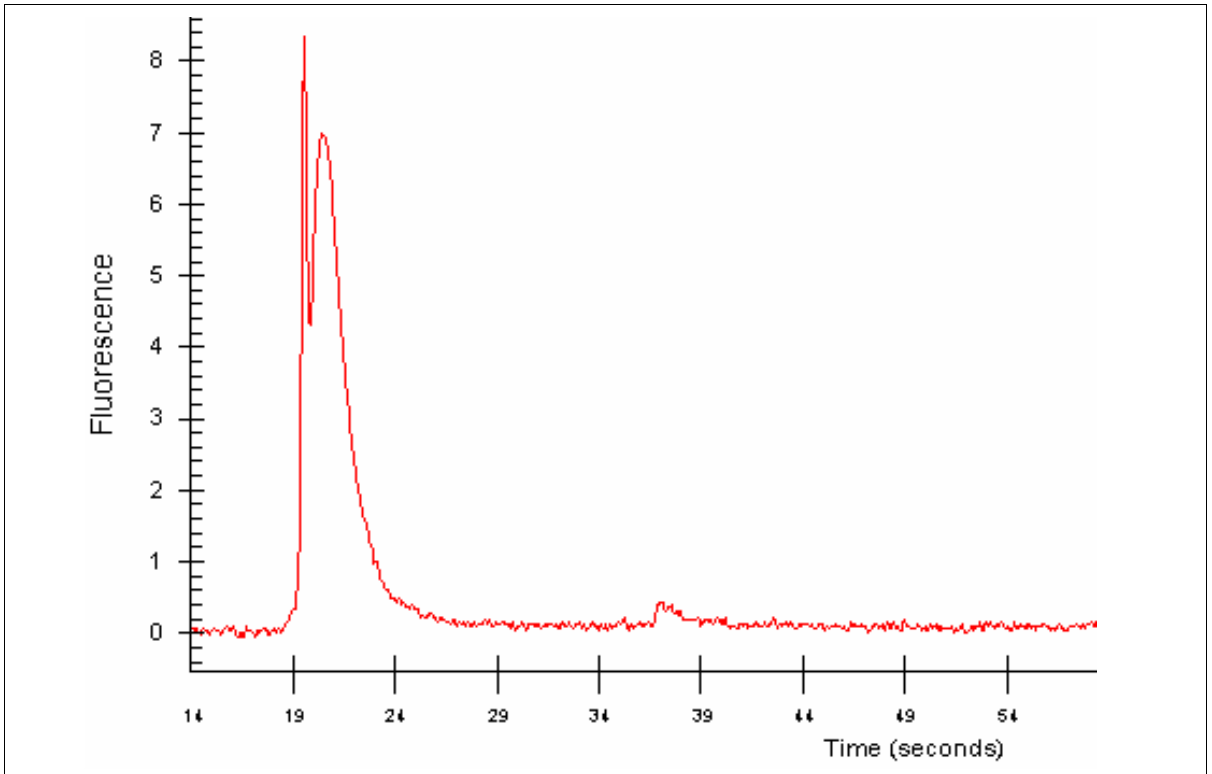

Figure 3.1 Bioanalyzer profile of Fragmented Single-Stranded DNA from Human Brain
5. Flick-mix, spin down the tubes, and transfer 45 µL of the sample to a new 0.2 mL strip tube. The remainder of the sample can be used for size analysis using a Bioanalyzer. Please see the Reagent Kit Guide that comes with the RNA 6000 Nano LabChip Kit for detailed instructions. The range in peak size of the fragmented samples should be approximately 40 to 70 nt. See Figure 3.1 as an example of typical results on fragmented samples.